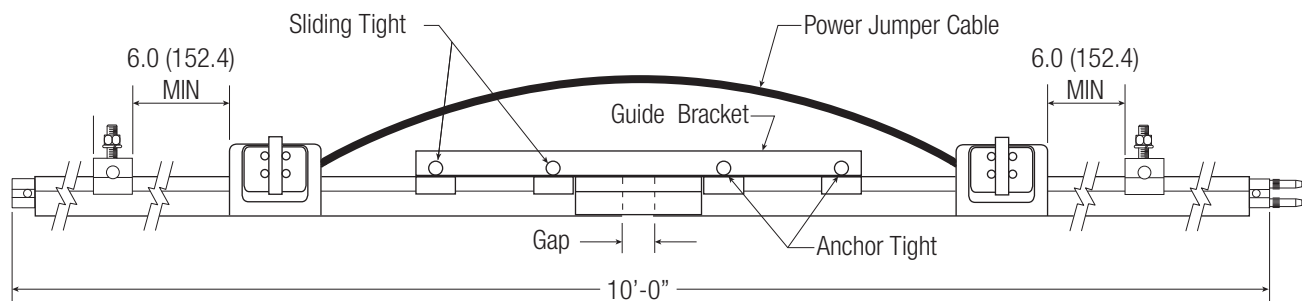

Figure: 8-1
- The anchor tight slide is the side with the pin installed at the end of the bar. See Figure: 8-1.